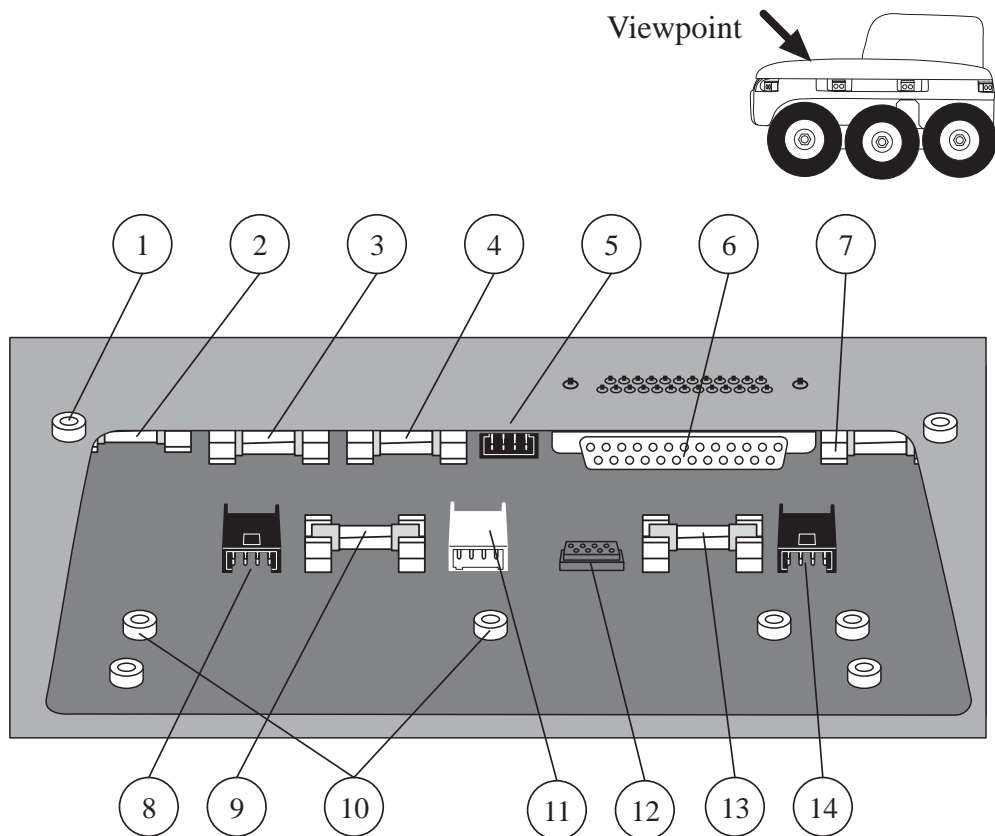

Figure 4: Inside view (mechanical extension support plate removed) with indication of some parts
- the internal RS232 serial line connector (item 6 of figure 4) called “DTE”